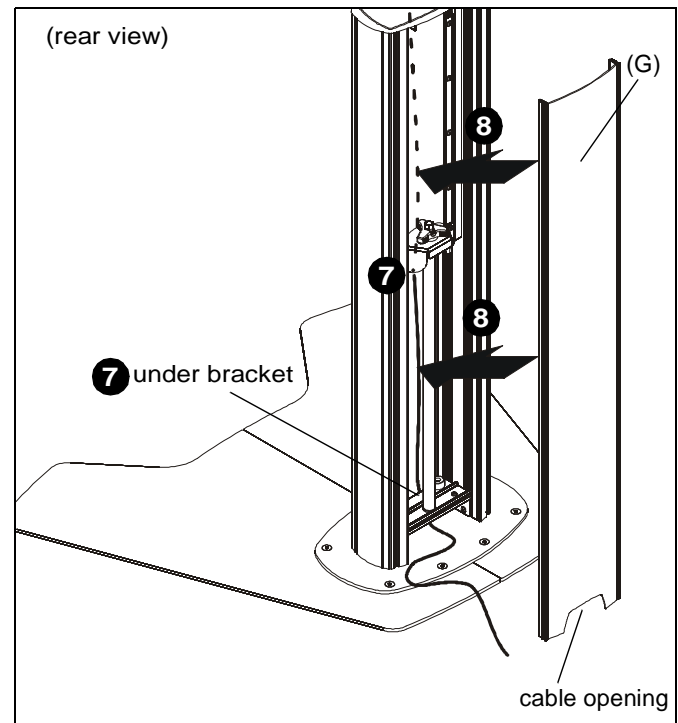

Figure 12
7. Route cables down column channel, tucking them behind height-adjustment carriage and underneath bracket holding height-adjustment shaft. (See Figure 12)
8. Snap back cover (G) onto back of column assembly making sure cables fit through opening at bottom of cover. (See Figure 12)